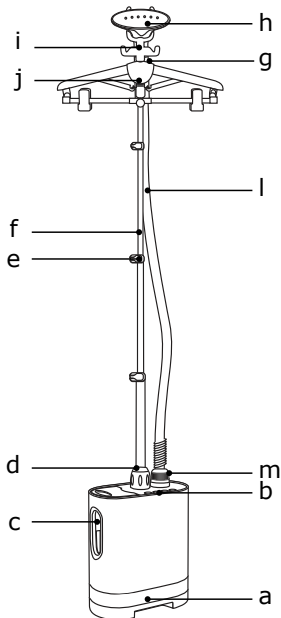

fig.1
2. Hang the steam head on the head support/hook. (fig.1)